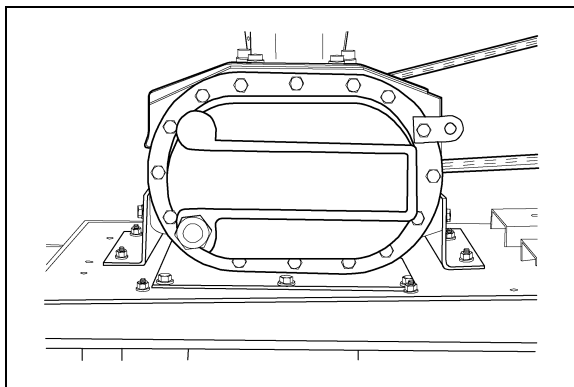

Figure 4L
7. Check the oil level of the blower. The oil level should be at the center of the sight glass. Add part number #MS5389, if required, through the breather plug on top of the blower case. (See Figure 4L). See the Maintenance Schedule on Pages 11 for the frequency of oil changes.